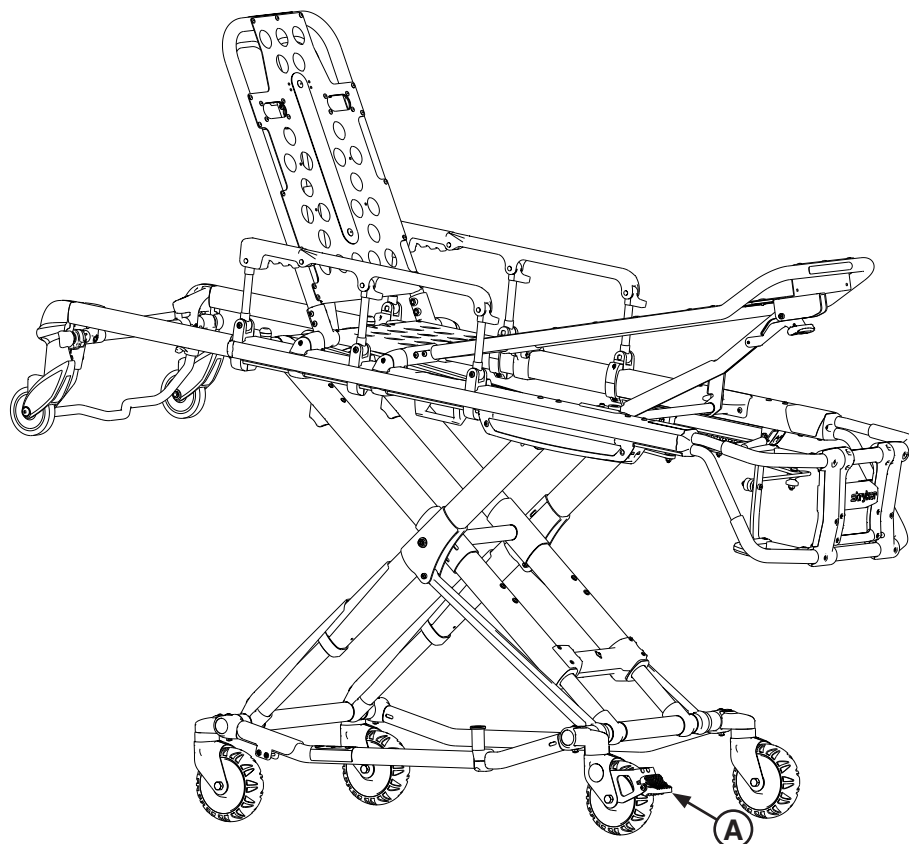

Figure 46 - Wheel Lock
To activate the optional wheel lock(s) (see Figure 46), press fully down on the pedal (A) until it stops and is resting firmly against the surface of the wheel.